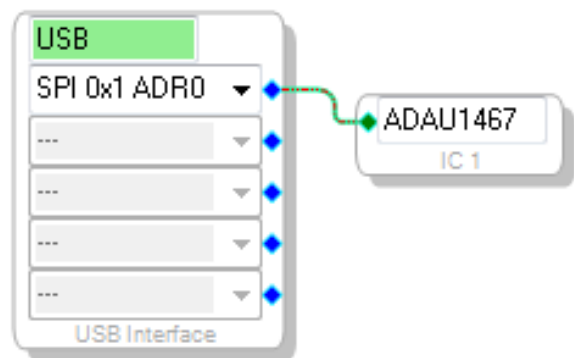

Figure 19. Connecting the USBi to an ADAU1467 in the **Hardware Configuration** Tab
- c. To connect the USBi block (USB interface) to the target integrated circuit (IC) block of the **ADAU1467**, click and drag a line, representing a wire, between the blue pin of the USBi and the green pin of the IC (see Figure 19). This connection allows the USBi to communicate with the **ADAU1467**. The corresponding dropdown box of the USBi automatically fills with the default mode and channel for that IC. In the case of the **ADAU1467**, the default communications mode is SPI, the default slave select line is 1, and the default address is 0.